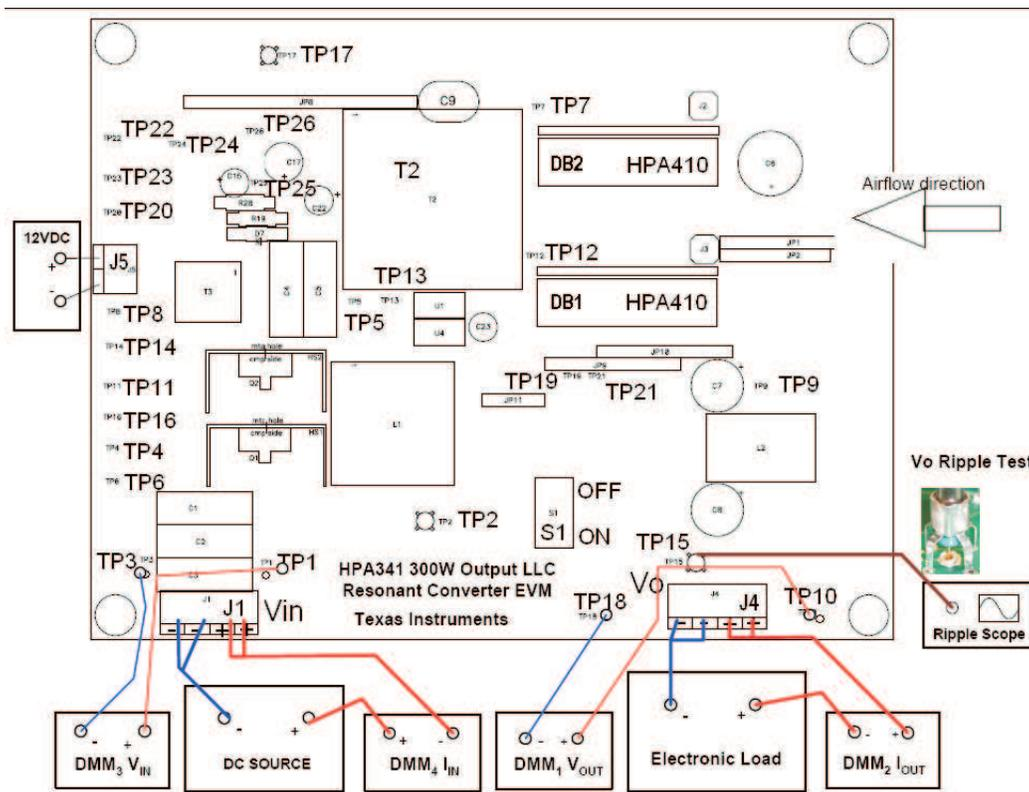

Figure 3. Recommended Test Set Up
**Output Load:** A programmable electronic load is recommended, configurable for constant current mode and capable of sinking 0 ADC to 25 ADC from 12 VDC. The output voltage can be monitored by connecting a DC voltmeter, DMM1 to sense pins (TP10 and TP18) shown in Figure 3. A DC current meter, DMM2, may be inserted in series with the electronic load for accurate output current measurements. Similarly, the input voltage can be monitored by connecting a DC voltage meter to sense pins (TP1 and TP3). The input current can be monitored by a DC current meter too. These are shown in Figure 3.
2. Prior to connecting the DC input source, limit the source current 1.0 A maximum. Make sure the DC source is initially set at 390 VDC prior to turning on. Connect the DC source to the EVM as shown in Figure 3.
3. Connect the current meters DMM2 and DMM4 as shown in Figure 3.
4. Connect the volt meter DMM1 and DMM3 as shown in Figure 3.
5. For operation with a load, connect the electronic load to the EVM as shown in Figure 3. Set the LOAD to constant current mode with initial value of 1.0 A. Note: if the load less than 1.0 A, the UCC25600 may be in burst operation and the EVM output voltage may start hiccup.
Setup the EVM with equipment as shown in Figure 3 and following the test set up directions described in Section 5.
Along with the measurement of line and load regulation, the output voltage ripple can be measured at the same time. The method of tip-and-barrel should be used for the output voltage ripple measurement. The EVM provides such type of test point to facilitate the measurement for the type of oscilloscopes from Tektronix as shown in Figure 3. Reference test results of the output voltage ripple can be found in Section 7.